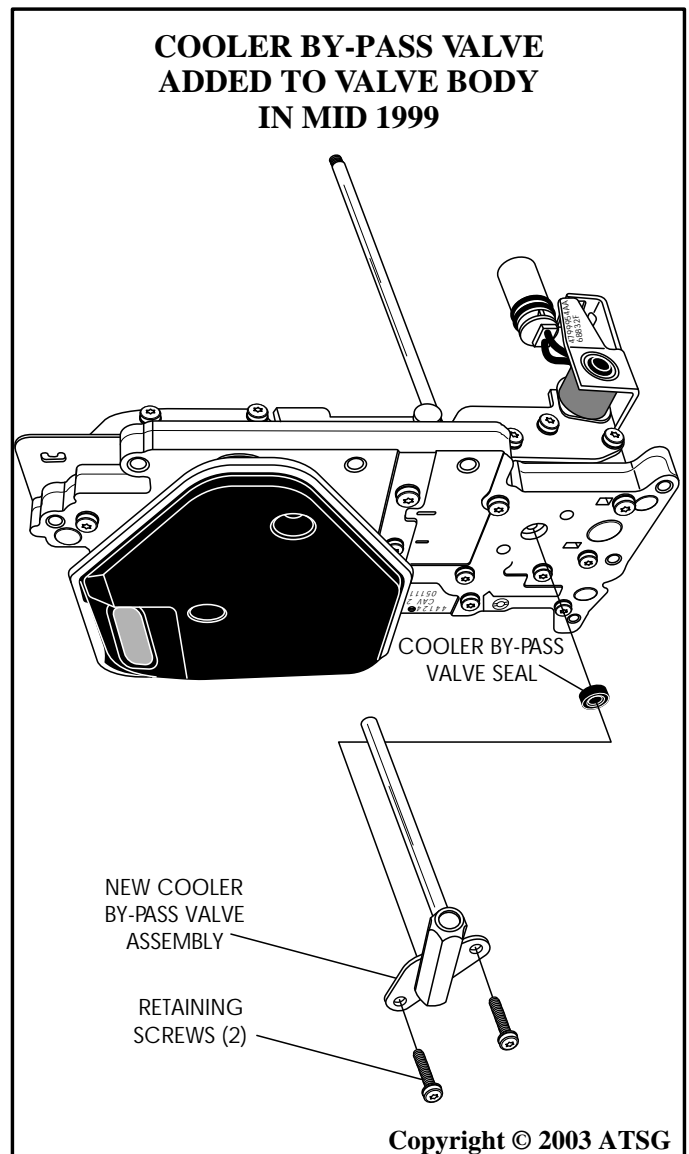

Figure 108
19. If your model is so equipped, install by-pass valve seal and cooler by-pass valve assembly, as shown in Figure 108.